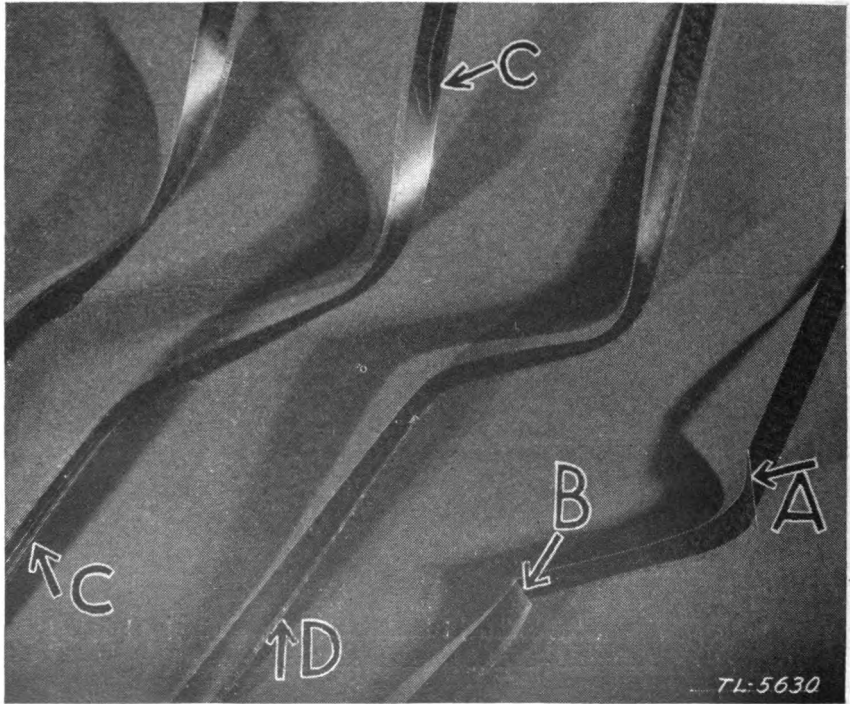

FIGURE 19.—Examples of film damage.
*b. Film damage.*—Film damage is caused by careless handling and careless projector operation. Figure 19 shows the four most common examples of film damage.
(1) Diagonal creasing *A* (fig. 19) is usually caused by film running over flange of feed sprocket, or by foreign material on sprocket shoe or guide roller.
(2) Horizontal creasing *B* is usually caused by stepping on film. Always be sure that film takes up properly during projection, so that it does not collect on the floor.
(3) Scratches on film *C* are usually caused by dirt in film gate or dragging pawl.
(4) Enlarged sprocket holes *D* are usually caused by dirty sprockets, lost loops, or excessive film gate tension.
(5) Sprocket holes on the sound track are made by incorrect threading or the use of sound film on a silent projector.